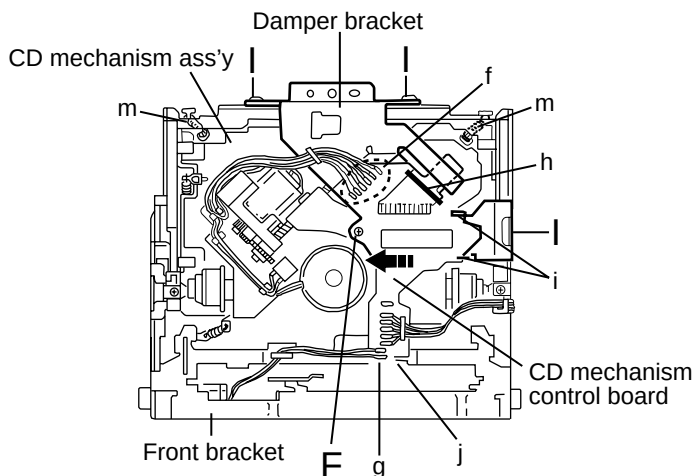

Fig.1
■ Removing the CD mechanism control board(See Fig.1 and 2)
(See Fig.1, 6 to 9)